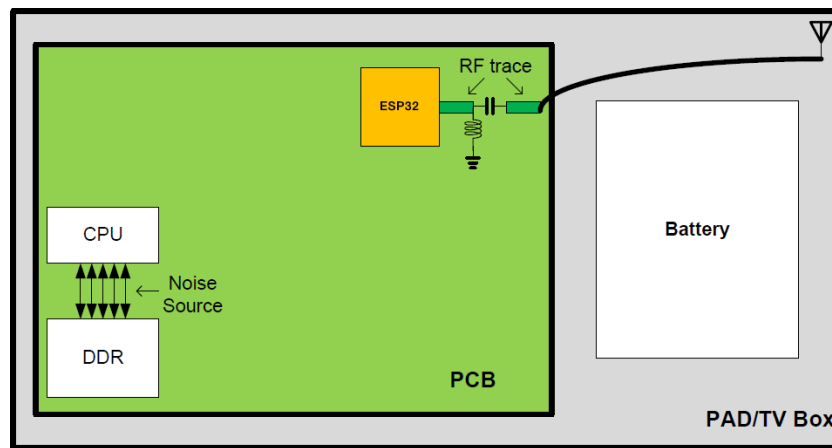

Figure 29: PAD/TV Box Layout
- As can be seen in Figure 29, ESP32 should be placed near the edge of the PCB and away from the CPU and DDR, the main high-frequency noise sources. The distance between the chip and the noise sources decreases the interference and reduces the coupled noise.